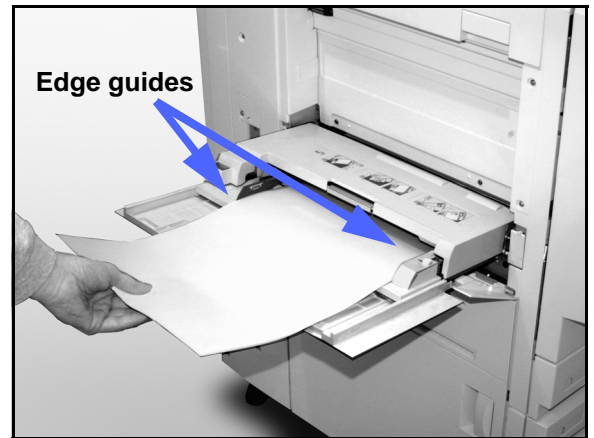

Figure 13: Loading paper into Paper Tray 5
- 2 Place the stack of materials onto Paper Tray 5 between the edge guides, as illustrated in Figure 13. Slide the stack into the tray until it stops.